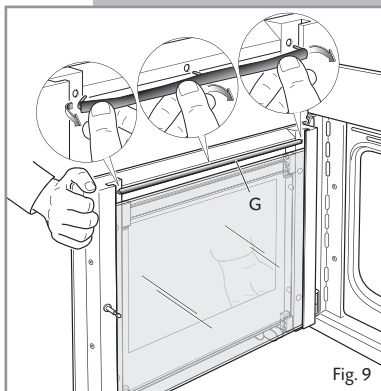

Fig. 9
- Remove the seal **G** by unhooking the no. 3 fixing hooks (fig. 9).